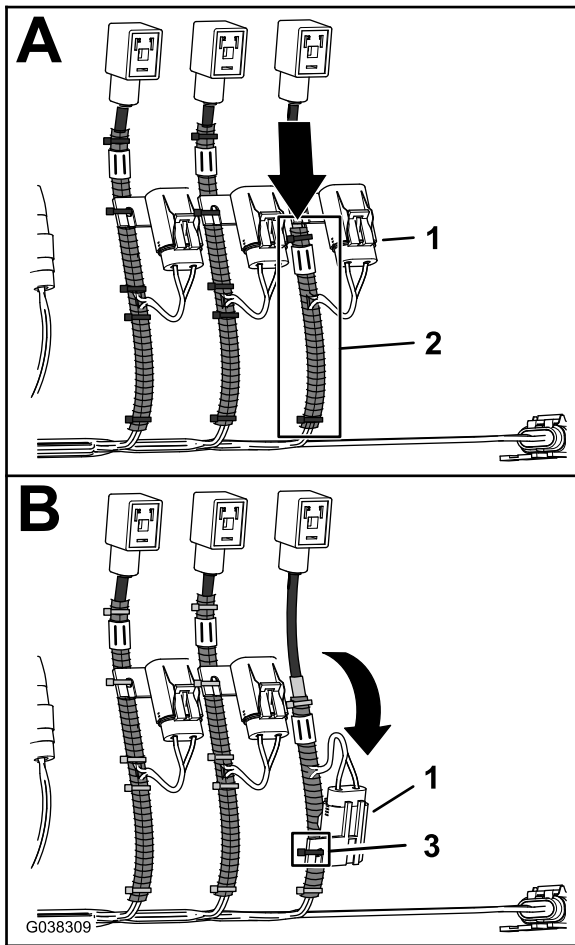

Figure 31
3. Position the convoluted tubing toward the main branch of the wire harness as shown in Figure 31.
4. Align the inline-fuse block to the convoluted tubing as shown in Figure 31 and secure the fuse block to the tubing with a cable tie.